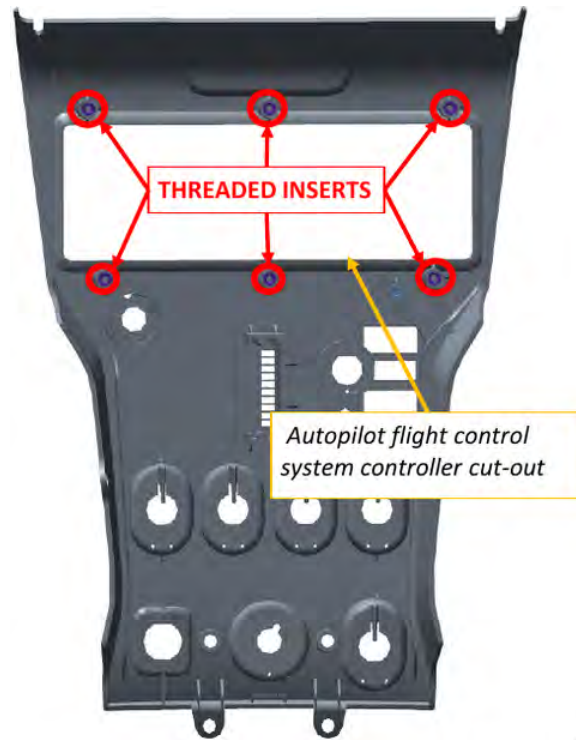

FIGURE 4-8
2. Remove the six screws and six threaded inserts from the radio stack bezel. (See Figure 4-8.)